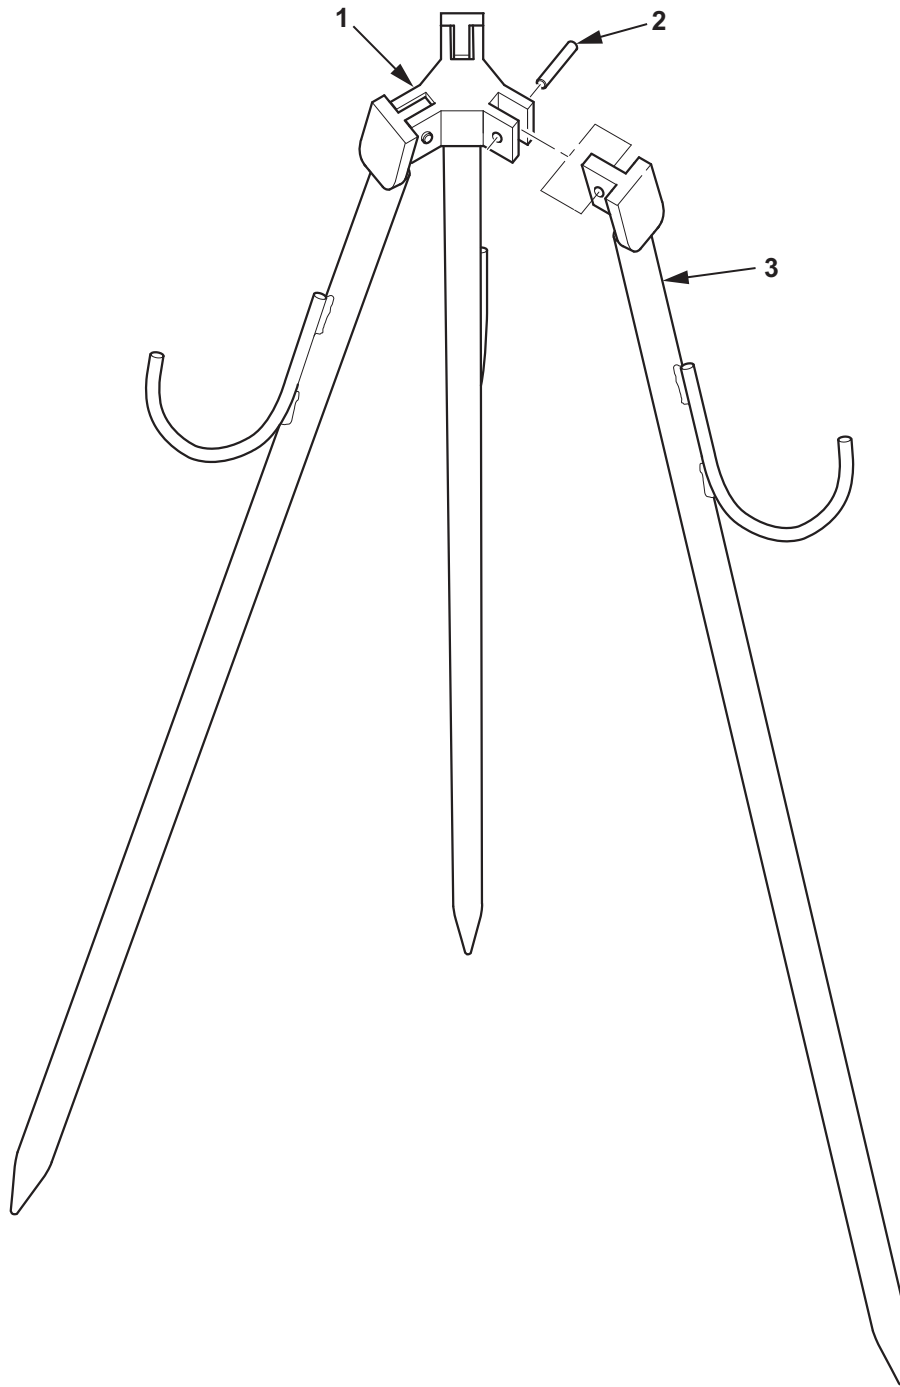

Figure 2. Nozzle Stand Leg Removal.
1. Remove straight pin (Figure 2, Item 2) and leg (Figure 2, Item 3) from nozzle stand (Figure 2, Item 1).